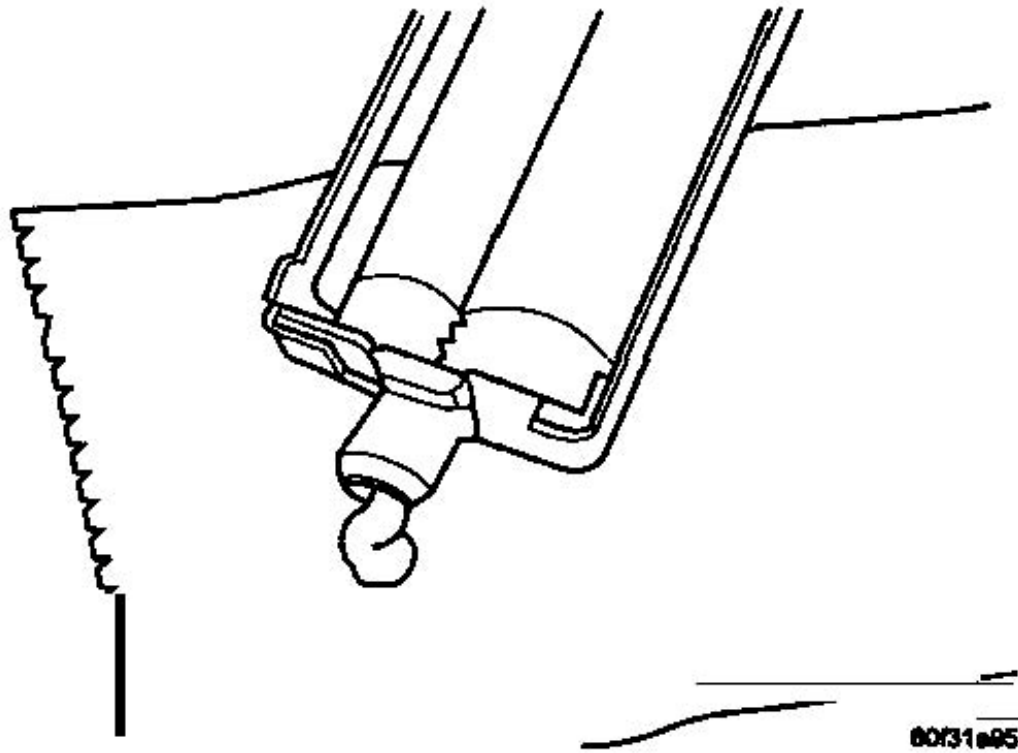

Figure 11. Both sides of cartridge should be flowing equally
- B25. Remove the retaining nut and plastic end caps from the cartridge, slowly squeeze out material until both parts of the adhesive flow equally (**Fig. 11**).